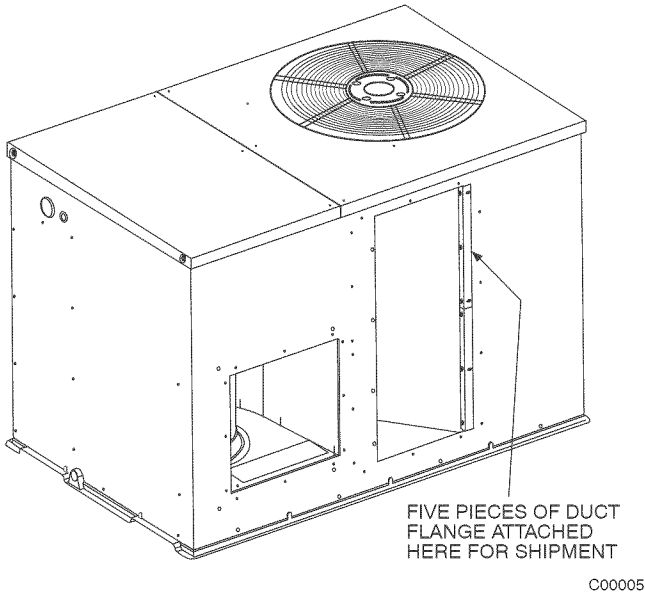

Fig. 5 - Shipping Location of Duct Flanges (Size 060 Only)
1. Five pieces of flange are shipped on the return-air opening of the unit. Remove the flanges from the shipping position. See Fig. 5. Screws are field-supplied.